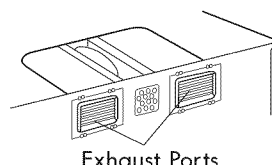

Figure 17
5. Rotate the unit so that the exhaust ports face the rear of the cabinet. See Figure 17.
6. Place blower unit back into cabinet. Check that the exhaust ports face towards the rear of the cabinet. See Figure 17.